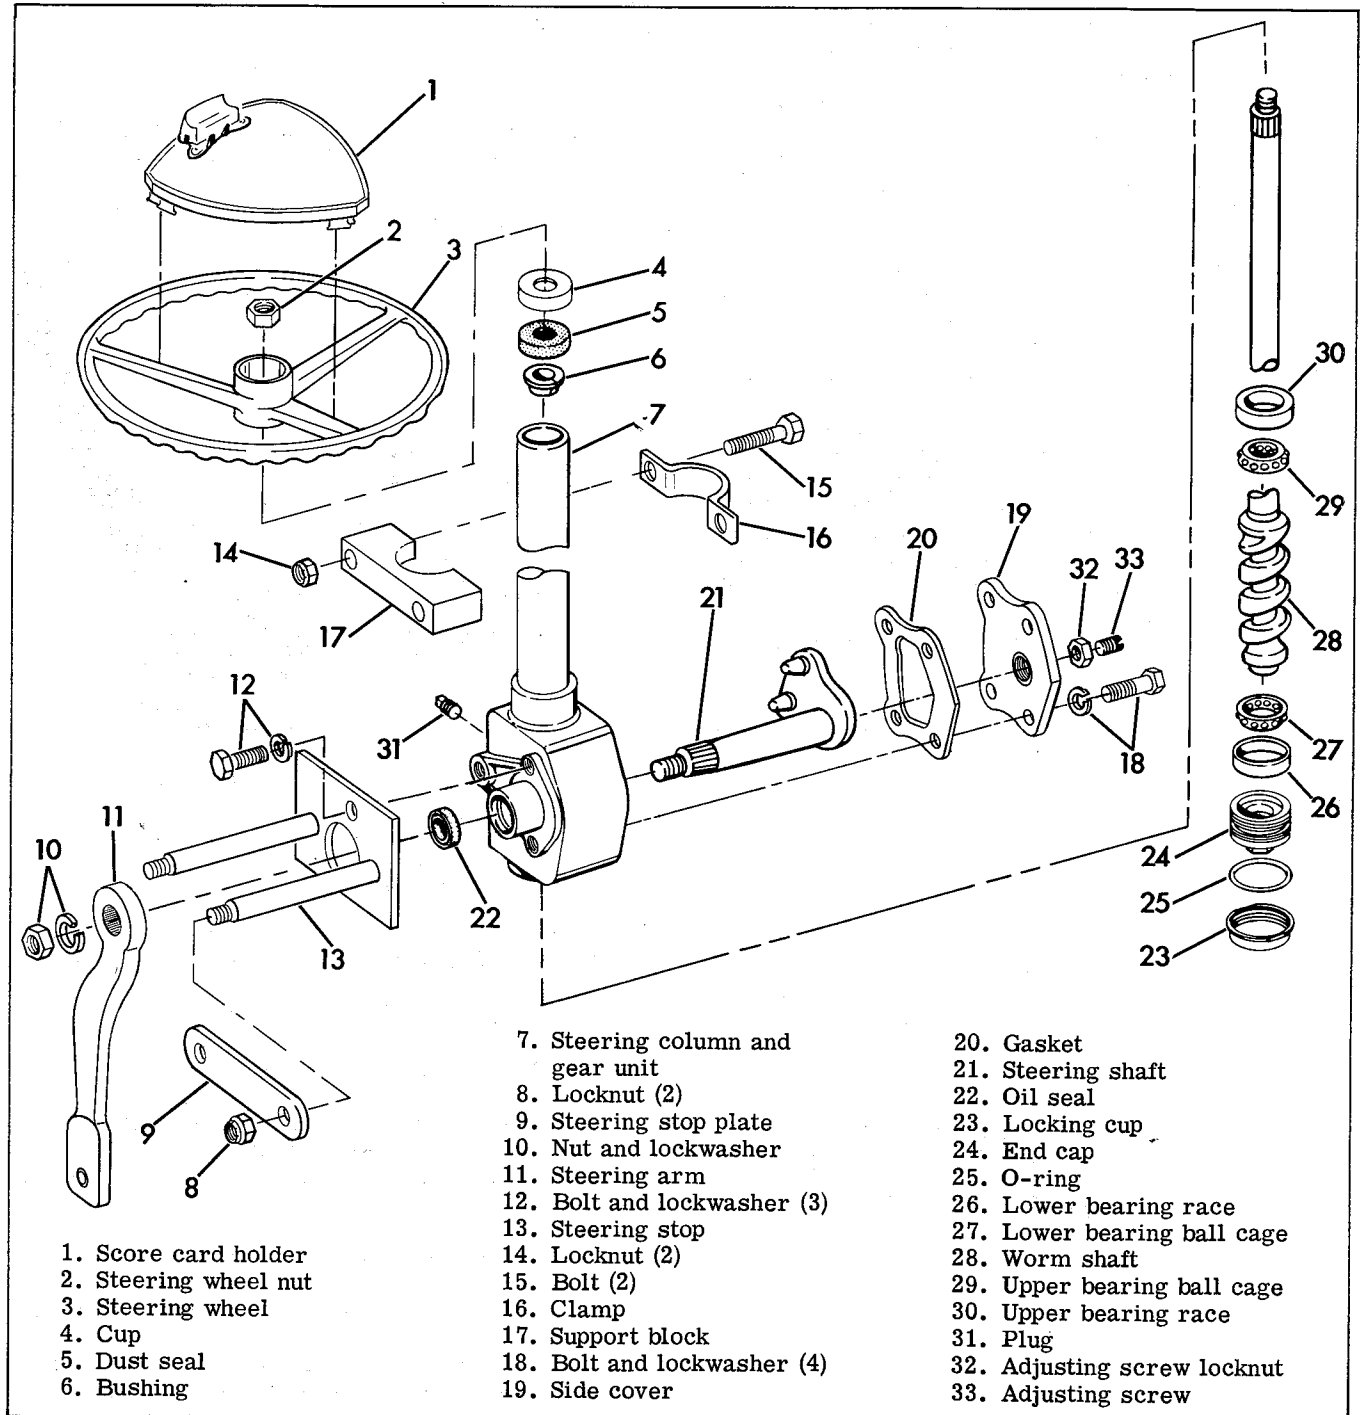
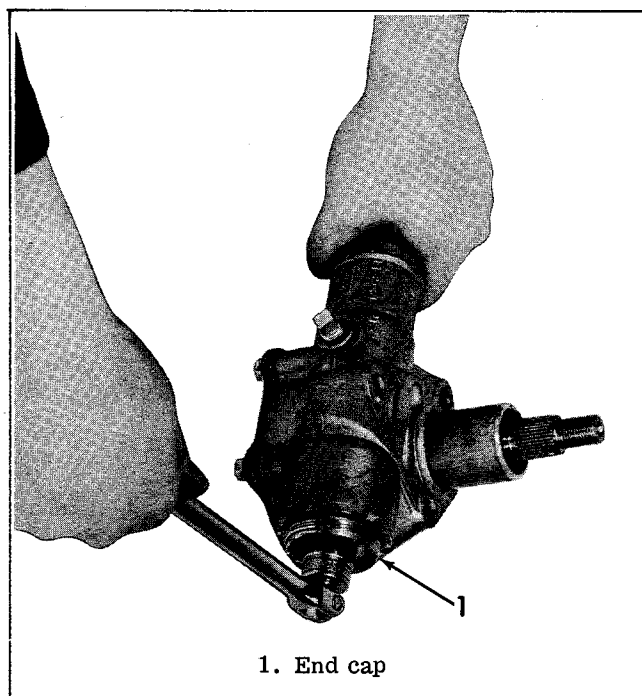

Figure 2-22. Steering Wheel and Steering Gear - Exploded View
Figure 2-23. Adjusting Worm Bearings
Steering linkage, Figure 2-22, does not require frequent lubrication. Lubricant level in steering gear housing should be checked yearly. Fill to level of hole with Harley-Davidson Transmission Lubricant
1. Worm Bearing Preload Adjustment (Figure 2-23). Note that locking cup (23), Fig. 2-22, is bent down to fit into a notch in housing flange at one point. This is the original factory adjustment. If the adjustment is correct, there should be a very slight amount of drag on bearings when turning steering shaft. Check for excessive looseness by pulling up and pushing down on steering wheel - there should be no play. To adjust out any looseness, remove locking cup. Turn cap inward to produce a slight amount of bearing drag and take out any up and down play in steering wheel shaft (See Figure 2-23). When the adjustment is finished, install locking cup, and use a punch to bend cup into housing notch to hold nut in position. Also stake edge of cup over end of nut to keep nut from turning.
REMOVING AND INSTALLING STEERING WHEEL AND STEERING GEAR UNIT (Figure 2-22)
Pry score card holder (1) from steering wheel and loosen nut (2) until flush with end of threads on shaft. Use claw puller, Part No. 97292-61 and wedge attachment, Part No. 95637-46 with a cap, Part No. 95652-43A (or equivalent) to protect threads as follows. Install wedge underneath steering wheel (3). Cup (4) can be depressed to gain clearance. Install jaws of puller behind wedge and turn screw against protective cap on shaft to pull wheel from splines (See Figure 2-22). Disassemble nut (2), steering wheel (3), cup (4), dust seal (5) and bushing (6) from steering column (7).
DISASSEMBLING AND ASSEMBLING STEERING GEAR UNIT (Figure 2-22)